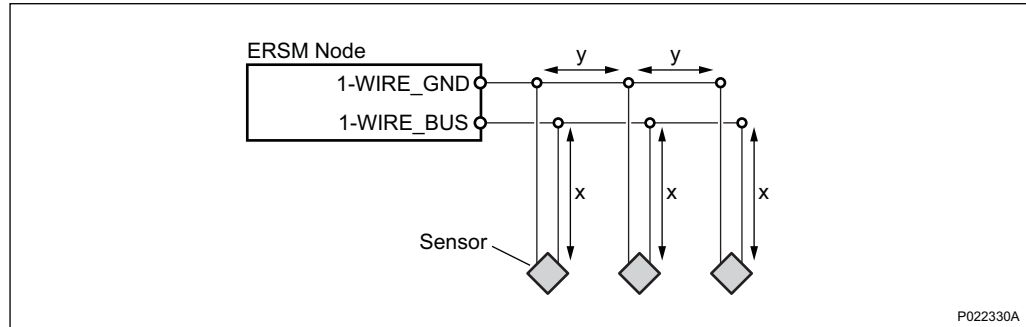

Figure 12 Line Formation of 1-Wire Sensors
and 1-WIRE_GND (ground). All sensors connect in parallel, as shown in Figure 12.
- The cable sections that are marked “X” in Figure 12 and must be of the same length.
- The cable sections that are marked “Y” in Figure 12 and must be as short as possible, preferably not longer than 0.1 m.